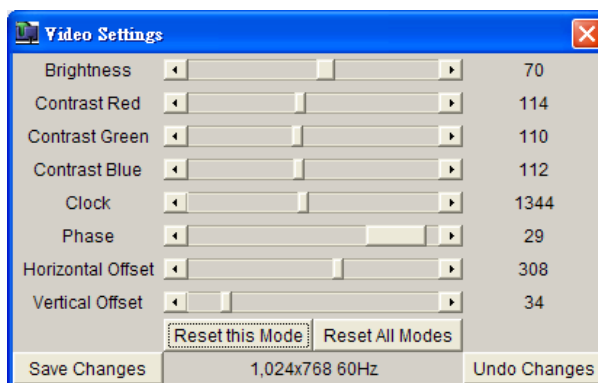

Figure 10-8 Video Settings
- **Video Settings:** This feature allows you to configure the advanced video settings. Please refer to Figure 10-8.